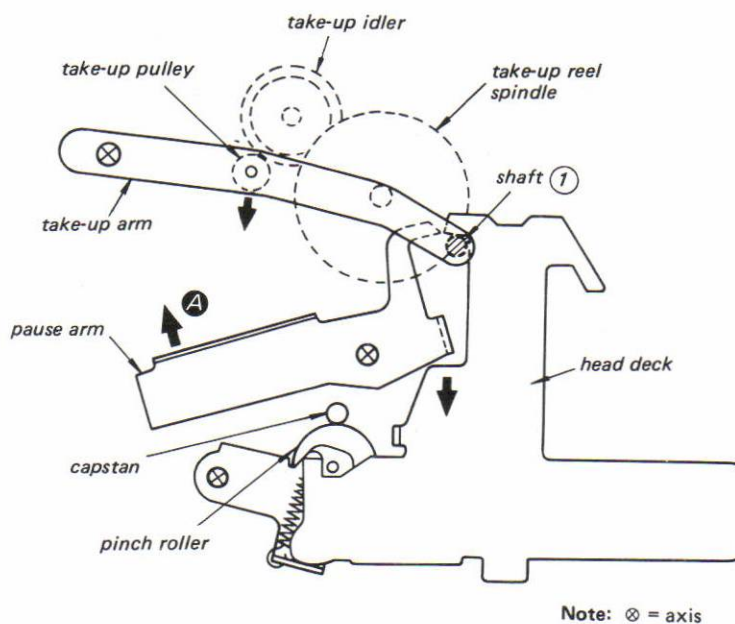

Fig. 6
3. Forward/Pause Operation (See Fig. 6)
- b) As the pause arm moves, shaft ① of the take-up arm is pushed downwards. Thus the take-up pulley and the take-up idler are separated, stopping the rotation of the take-up reel spindle.